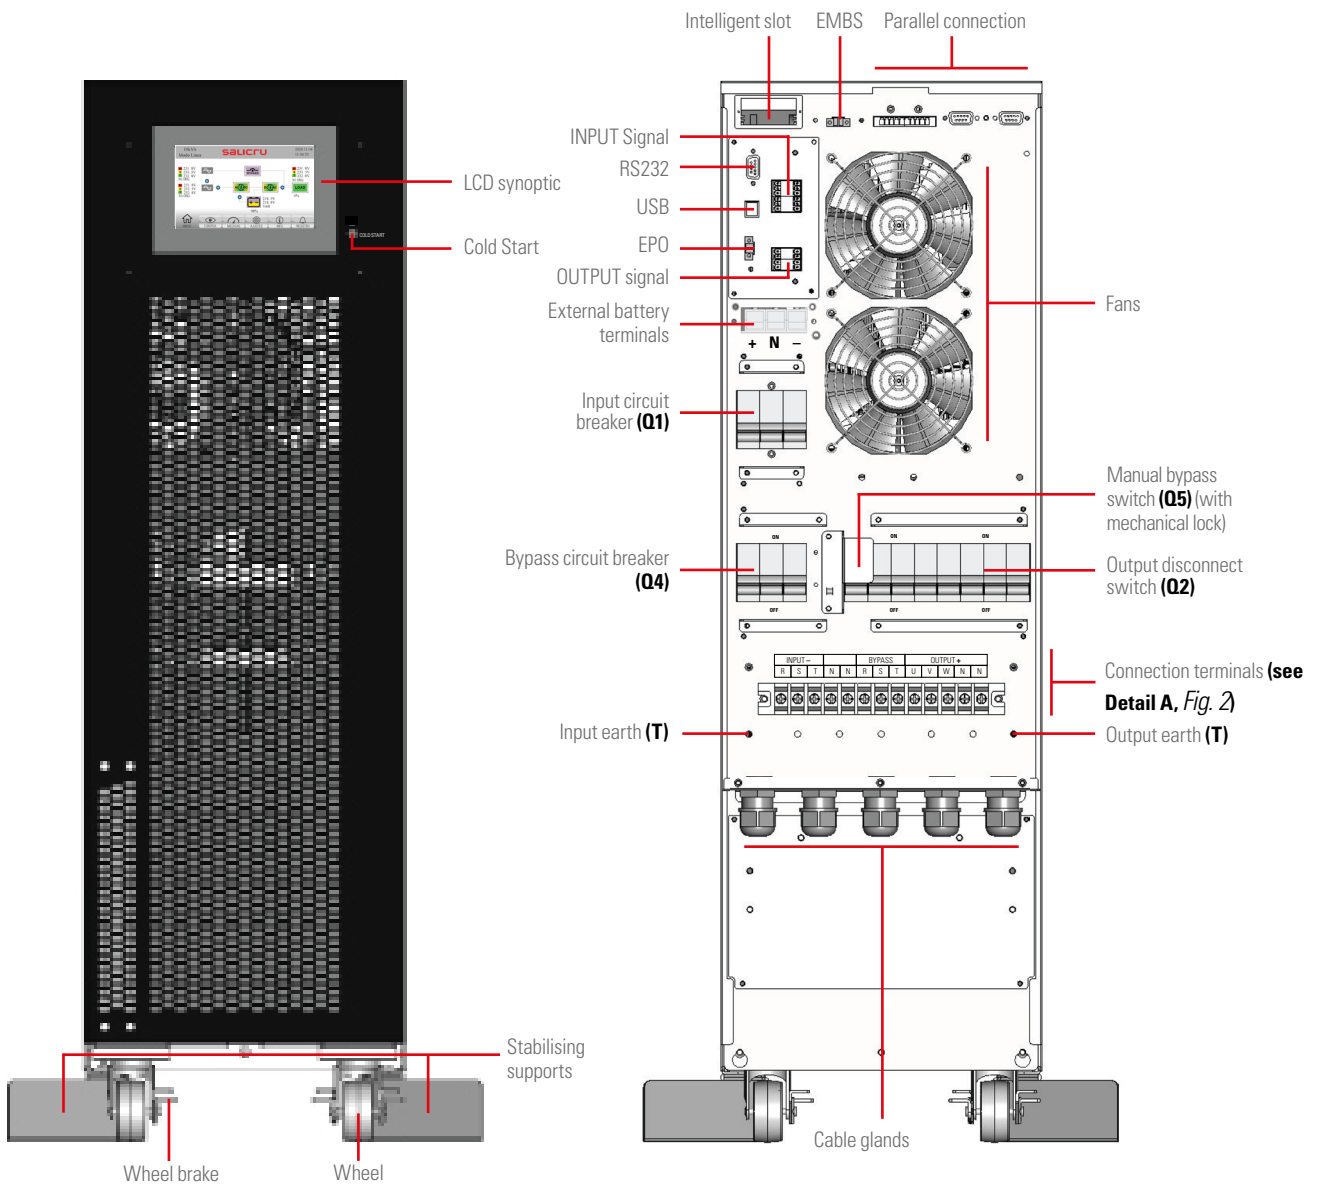

Fig. 1. Front and rear views (without the terminal cover) of the SLC CUBE4 series 7.5 to 20 kVA cabinet.
(1) Dimensions corresponding to the unit with the stabilising supports installed. For safety purposes, it is recommended to install them to give the unit greater stability, largely avoiding the risk of tipping (see *Fig. 1*).
Fig. 1 show front and rear views and their constituent parts.